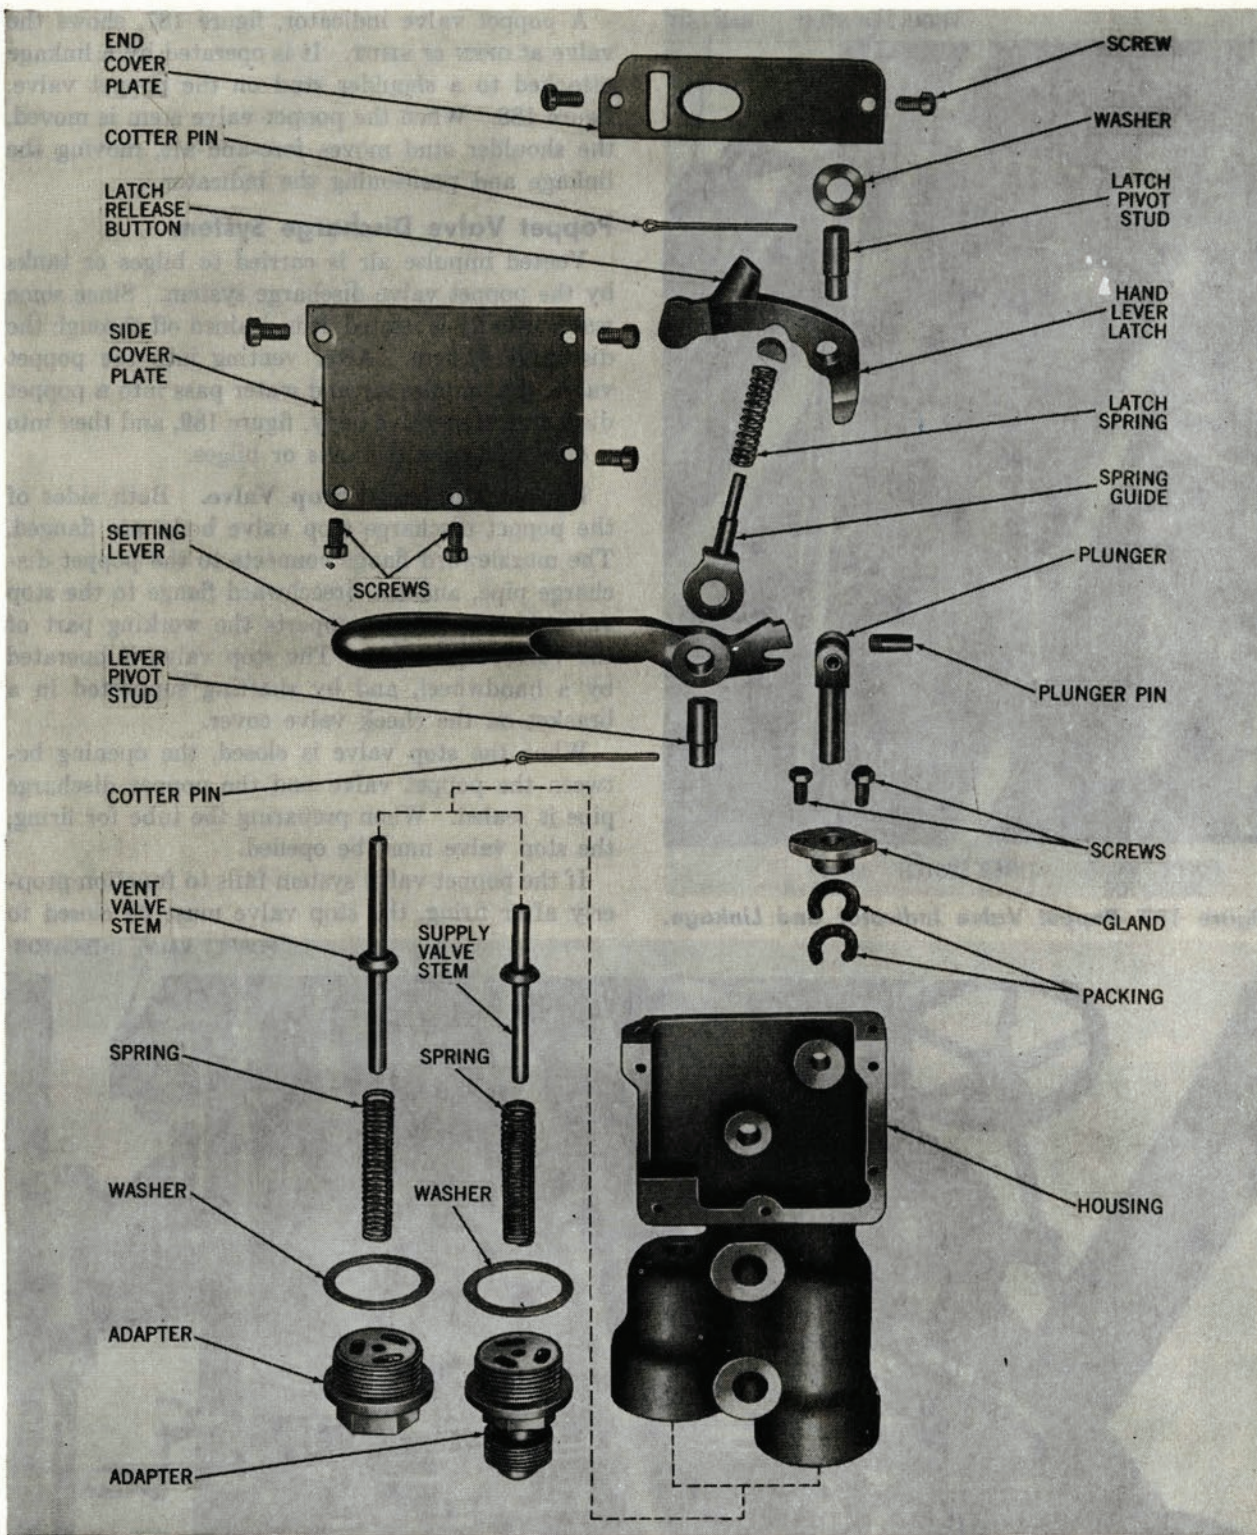

Figure 186—Vent-Closing Valve Disassembled.
**Vent-closing Valve.** The vent-closing valve body contains two poppet-type valves, figure 186, operated by the setting lever so that when one is open the other is closed. One of these valves is a shut-off and supply valve for the ship service air to the operating unit; the other vents the air line